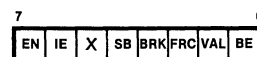

Figure 24. Transmitter Control/Status Register
**Loopback Enable (LB).** The UART is capable of local loopback. In this mode the internal transmit data line is tied to the internal receiver line and the external receiver input is ignored. If this bit is set to 1, loop back mode is enabled.
**Clock Rate (CR).** These two bits specify the multiplier between the clock and data rates (00 = data rate  $\times 1$ , 01 = data rate  $\times 16$ , 10 = data rate  $\times 32$ , 11 = data rate  $\times 64$ ). The same rate is used for both the receiver and transmitter. If the  $\times 1$  clock rate is selected, bit synchronization must be accomplished externally.
**Clock Select (CS).** This bit specifies the clock input for the UART. If the bit is set to 1, the counter/timer 1 output pulse is used for bit-rate generation; if the bit is cleared to 0, the input line to counter/timer 1 provides the clock from an external source.
**Parity (P).** If this bit is set to 1, an additional bit position (in addition to those specified in the bits/character control field) is added to transmitted data and is expected in received data. In the Receiver, the parity bit received is transferred to the CPU as a part of the character, unless eight bits/character is selected.
**Transmitter Control/Status Register.** This 8-bit register (Figure 24) specifies the operation of the transmitter.